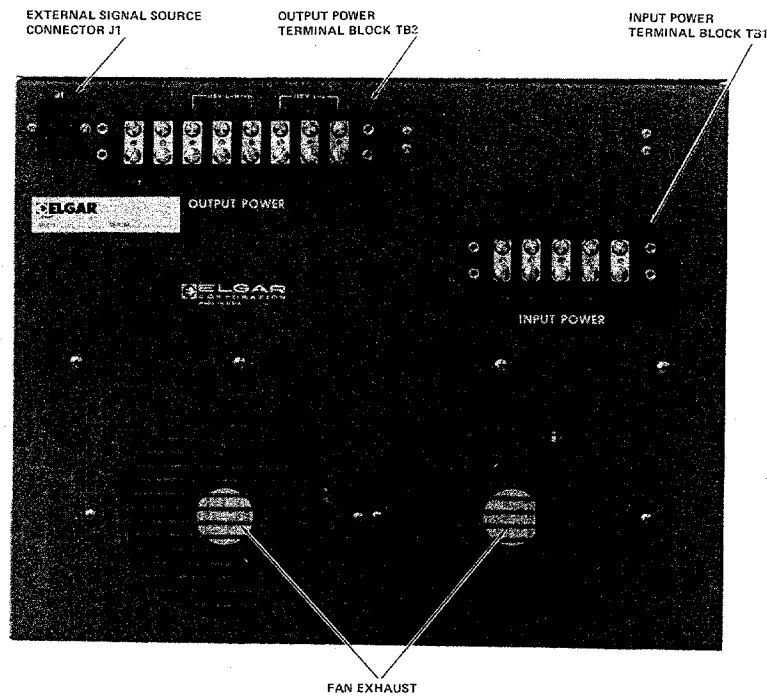
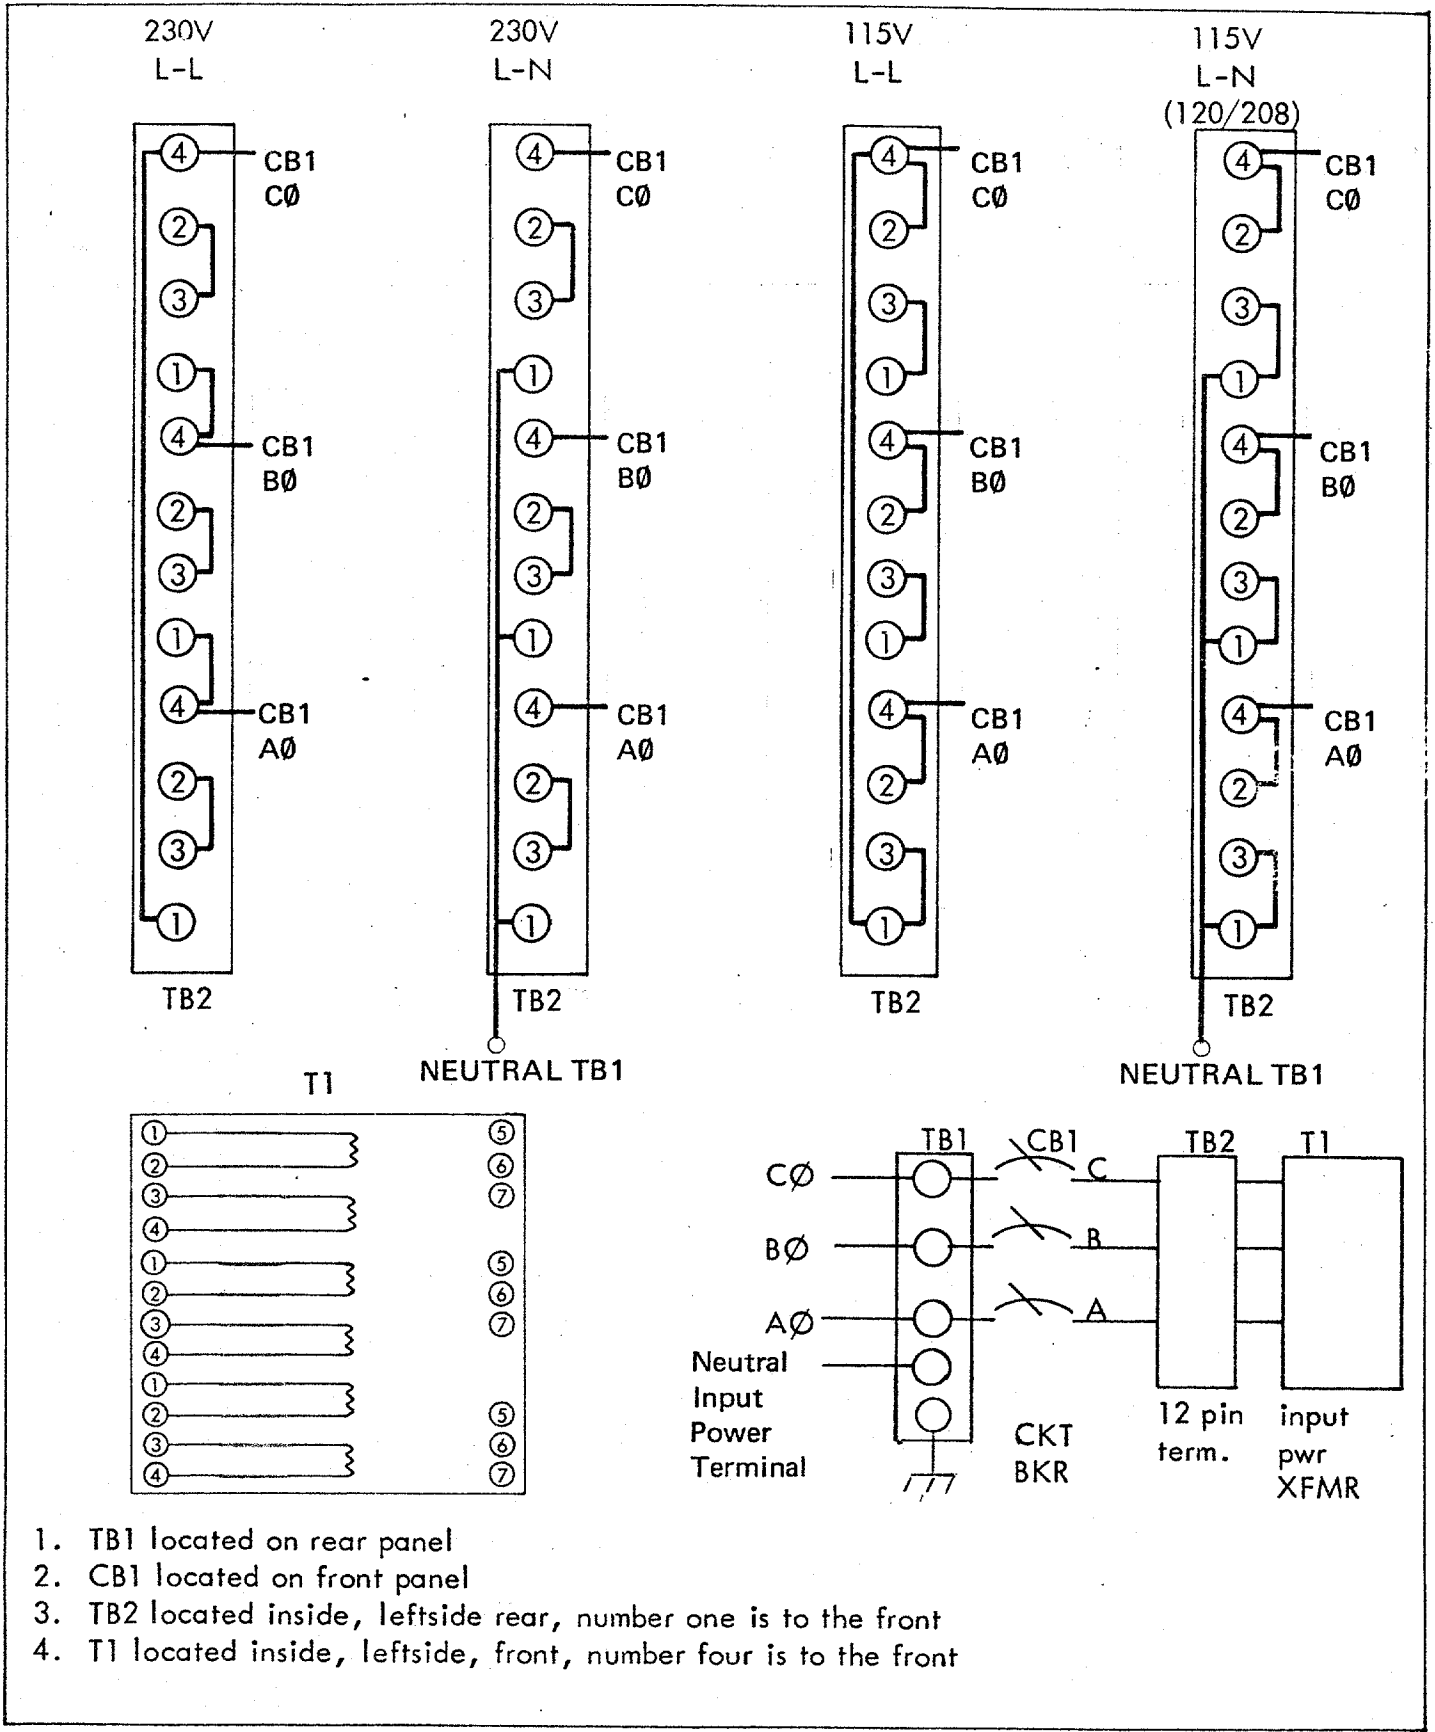

FIGURE 2-2. REAR PANEL POWER CONNECTIONS
Figure 2-3. Input Power Configuration, Model 1753B.
2-8. The Model 1753B operates from 115 or 230 VAC line to line or line to neutral three phase input power at 47-63 Hz power with 400 Hz input power available on special order. Refer to Figure 2-2 regarding location of input power terminal block containing the primary tap connections. See Figure 2-3 for information regarding proper transformer tap configuration suitable for the input line to be used with the Model 1753B.
6. Connect the input power to the terminal board on the rear panel. Make certain available power agrees with internal input power connections (see Figure 2-3).